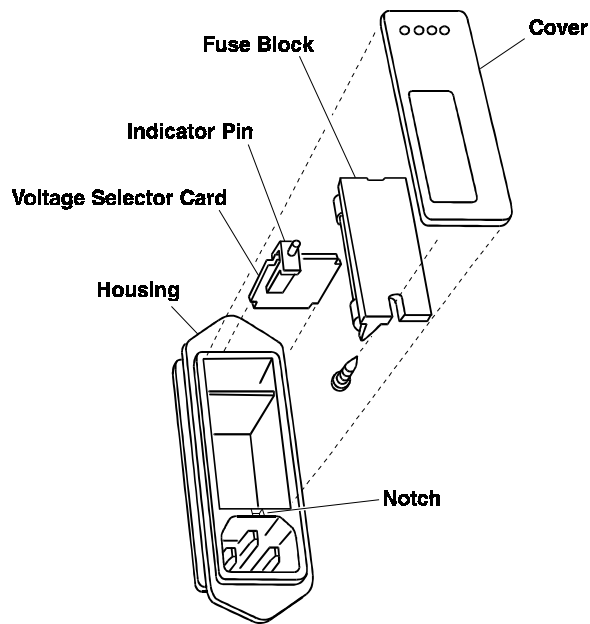

Figure 3-4: Removing the Voltage Card
3. Pull the voltage selector card straight out of the housing by pulling on the indicator pin (see Figure 3-4).